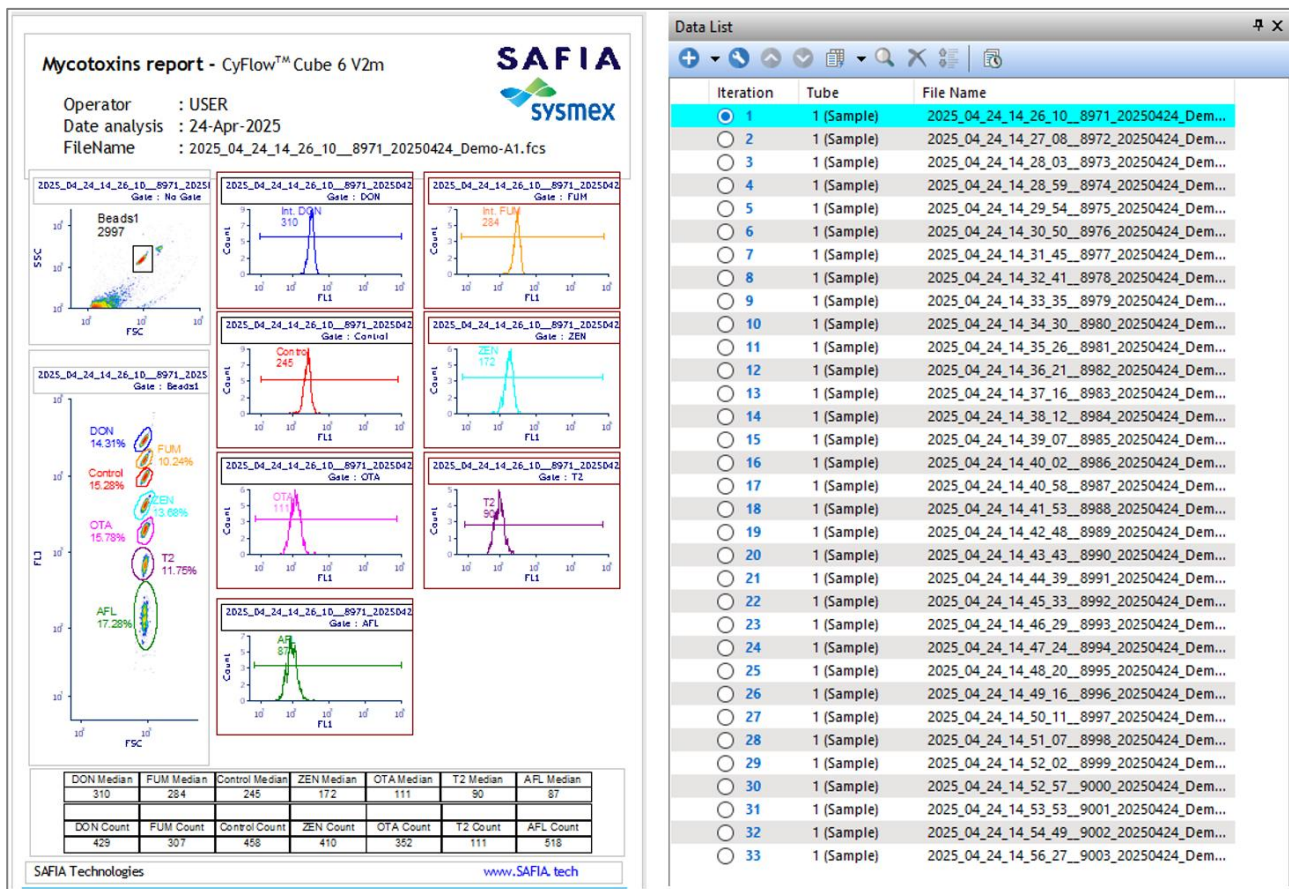

Figure 23. Display of .fcs data in FCS Express
15. Once the measurement is complete, *FCS Express* opens automatically and displays the measured data (see Figure 23). If the correct data is not loaded automatically, follow the instructions in section 10.2.